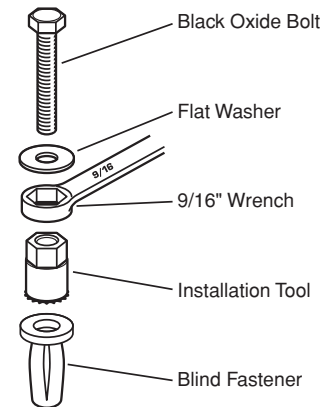

Figure 6
- Install Blind Fastener (per Fig. 6) in stake pocket (or inner wall).
- Install Blind Hole Fasteners in truck bed per Fig. 6
- Install Blind Fastener using Fig. 6 as a guide.